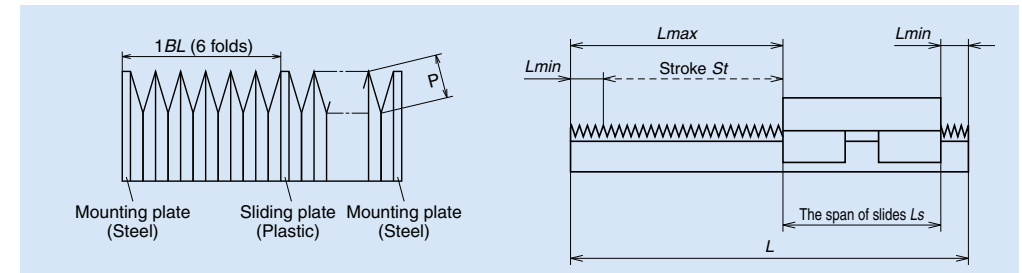

Fig. 7.10
- Bellows fastener is available only for the horizontal mounting positions. For other mounting positions, sliding plate is required (see **Fig. 7.10** on page A56.)
- A bellows forms one block (BL) with six folds as shown in **Fig. 7.10**. The stroke is determined by multiplying by an integer of this BL.